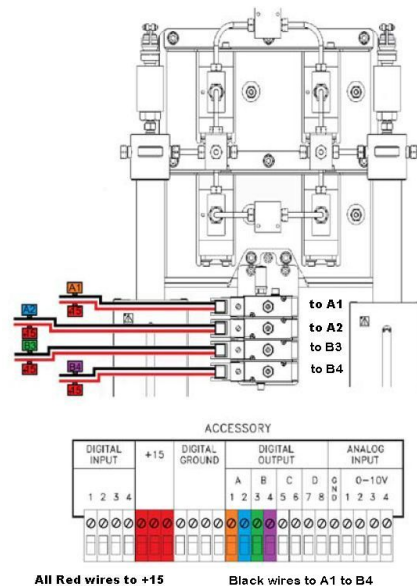

Figure 8: Connecting air valve system to controller
7. Connect the wires from the valve assembly to the terminal strip on the rear of the controller as shown in Figure 8.
All red wires are connected to +15. The black wires are connected to A1, A2, B3, and B4 as shown in Figure 8.